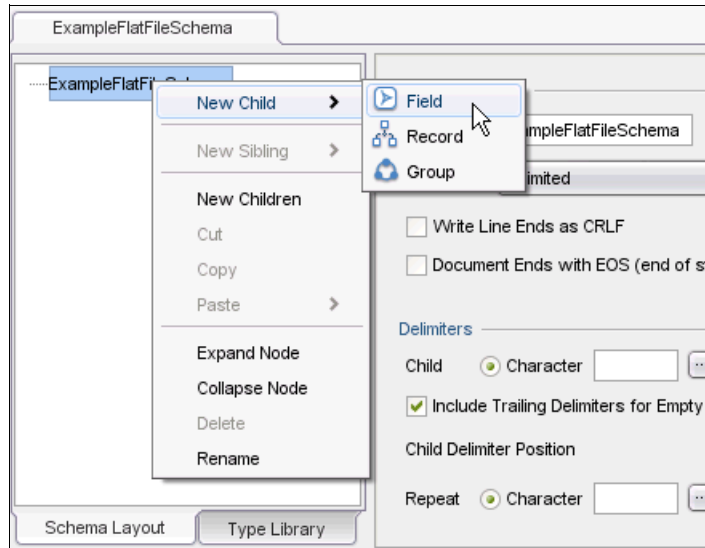

Figure 3-103 Adding a child to a node in the Flat File Schema editor
2. Select **New Child** and then **Field**, **Record**, or **Group** as shown in Figure 3-103.